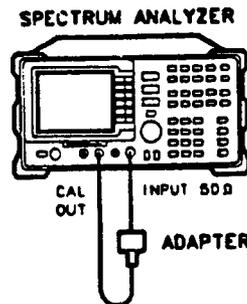

Figure 2-16. CAL FREQ Adjustment Routine Setup
1. Connect the CAL OUT to the INPUT 50Ω with the BNC cable. See Figure 2-16.